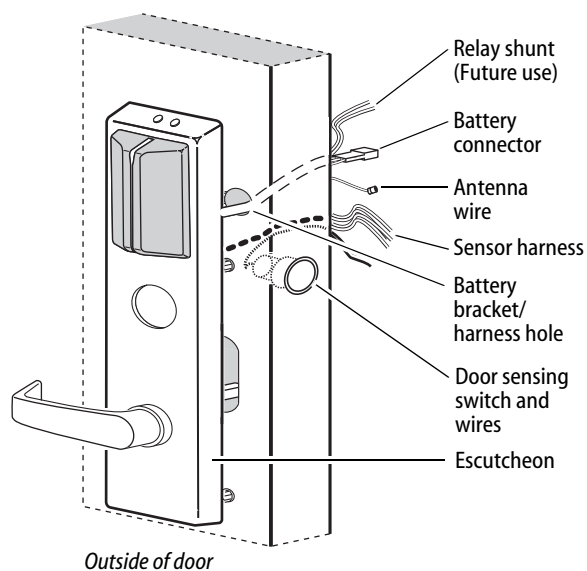

Figure 18 Feeding the wires through the door
- 1 From the outside of the door, feed the antenna wire and battery connector (with relay shunt) through the battery bracket/harness hole as shown in Figure 18.